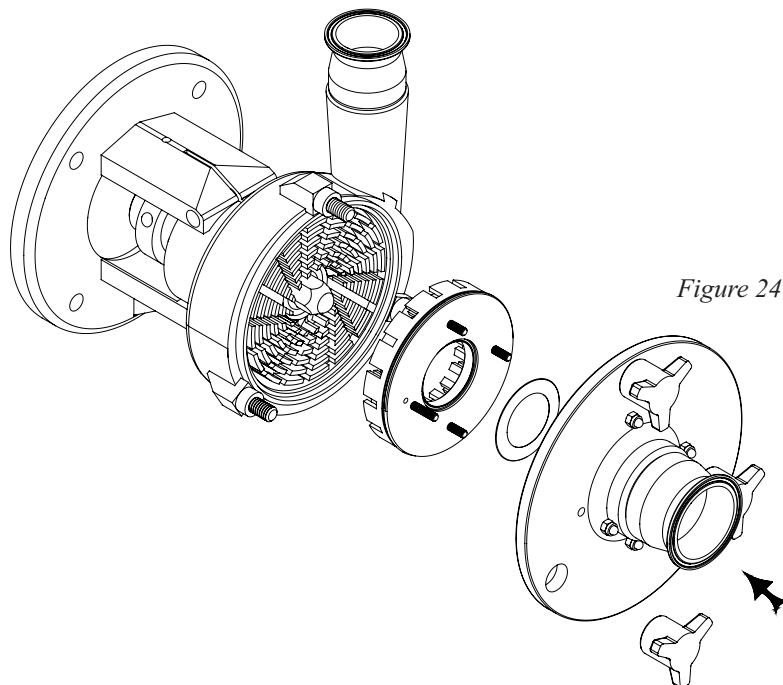

Figure 24
- a) Assemble the housing (17) (without the stationary seal) onto the flange support (2). Make sure that the shoulder of the housing bottoms out against the flange support.
- b) Tighten the clamping bolt (4) in the flange support. Note: make sure the housing is level or in line with the piping.
- c) Place the front seal driver (32) onto the pump shaft (6).
- d) Place the rotor key (8) and rotor (38) onto the shaft (6). Thread the rotor nut (22) onto the shaft and tighten.
- e) Set the gap by placing a 0.5 mm feeler gauge behind the stator (39) (*Figure 24*). Note: the stator o-rings shouldn't be in place at this time.